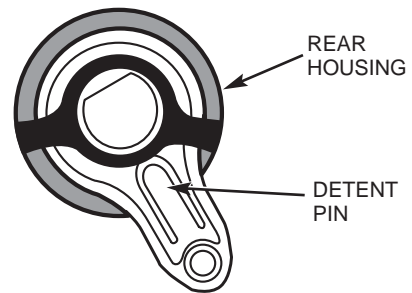

FIGURE 5
13. Insert the completed lock into the front housing (S), from the back of the front housing (R).
14. Install the driver (I) over the shaft protruding from the back of the lock cylinder.
15. (Refer to Figure 5). Insert the lever (J) into the back of the rear housing (R) in such an orientation that a protruding detent pin on the arm of the lever (J) faces the back of the rear housing (R).